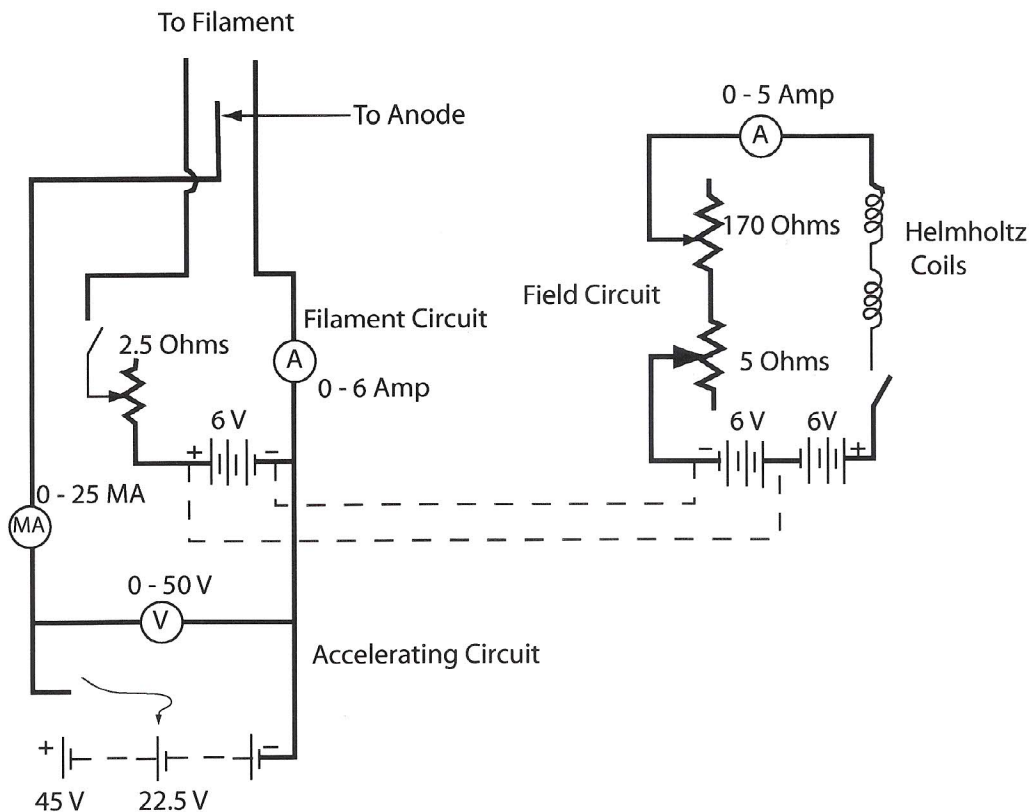

Figure 2: Circuit Diagram
6. (Perform Step 6 only for the older base style.) Make electrical connections to the tube as shown in Figure 2. Follow the power requirements below before operating apparatus.